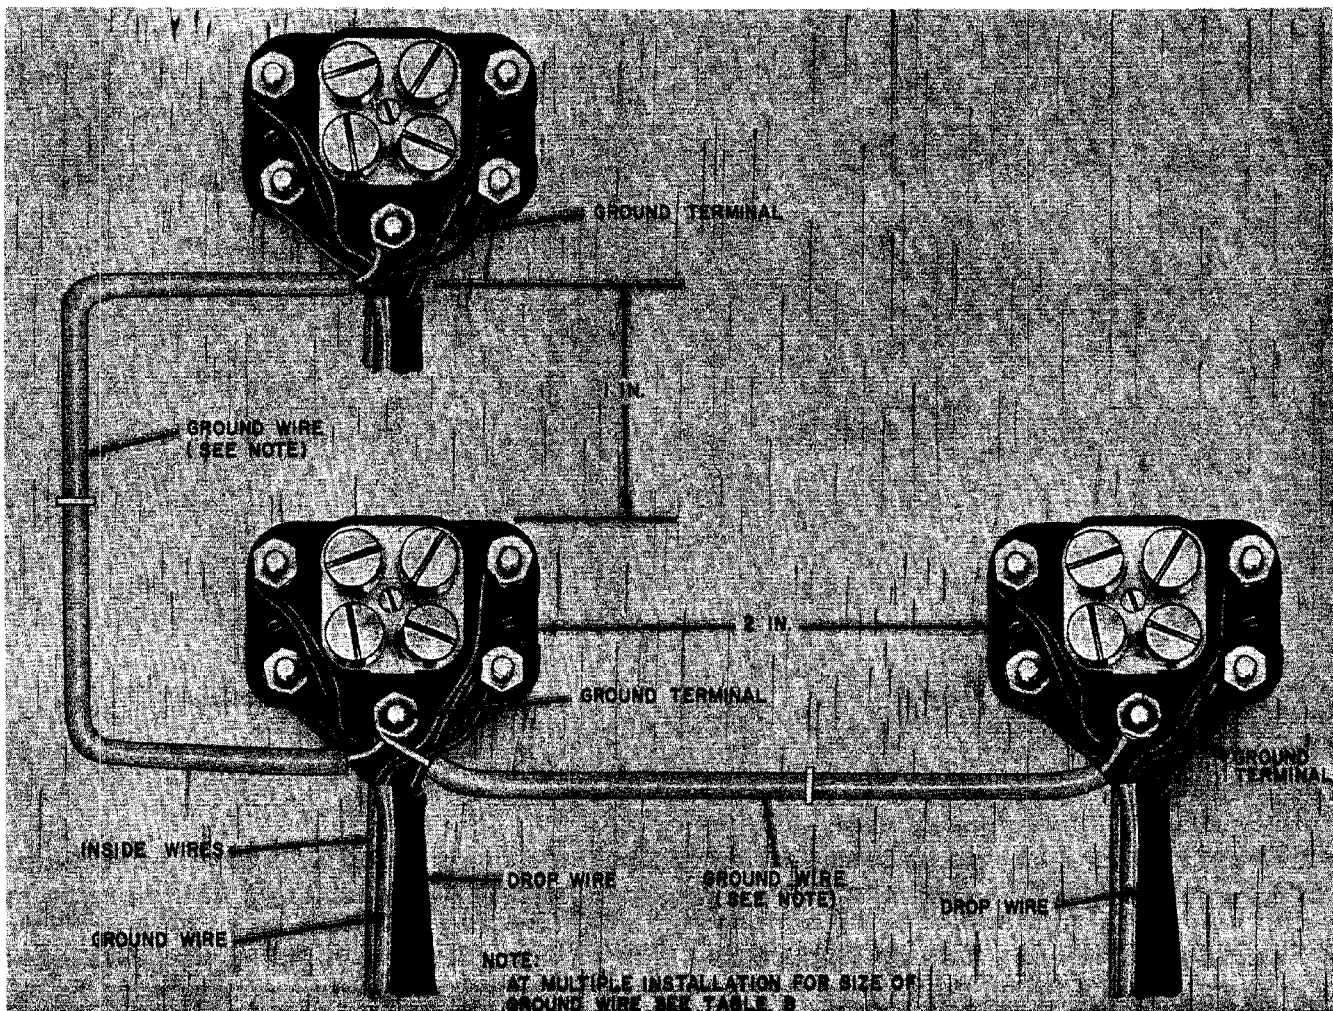

Fig. 7—128A1A-2 Protector
4.06 Fig. 7 illustrates a typical installation when the 128A1A-2 Protector cannot be installed on an acceptable metallic cold water pipe.